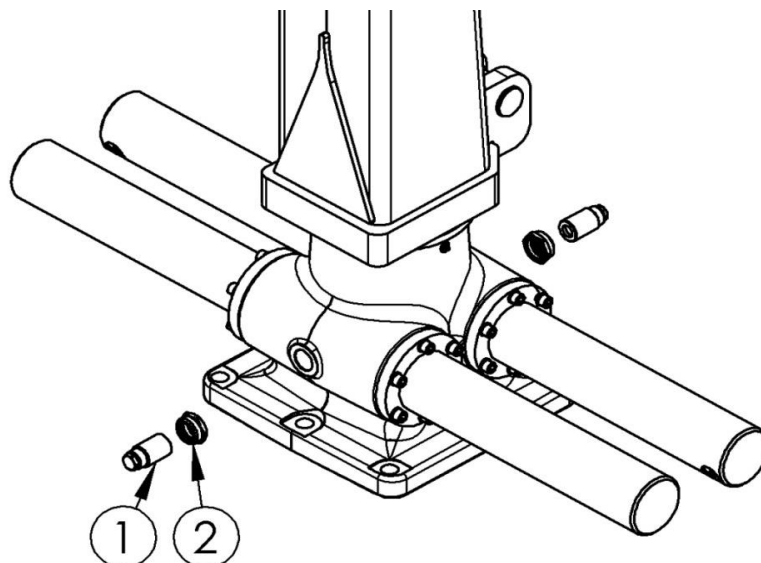

Figure 12. Adjusting racks of slewing device
- Release the locking nut widely enough, so it will not obstruct tightening (pos. 2 fig. 12).
- Tighten the bolt (pos. 1, fig. 12) against the gear rack with 20-25 Nm (2-2,5 kg\*m).
- Tighten the locking nut (pos. 2 fig. 12).
2. Ensure that the slewing device is in horizontal position, as shown on fig. 12.
3. Release the lock nut (pos. 2, fig. 12).
4. Remove the bolt (pos. 1, fig. 12).
7. Tighten the lock nut according to manual's point 9.2 (pos. 2, fig. 12).
**Oil should be changed at least once a year. Oil level has to be up to the lower edge of bolt hole (pos. 1)!**